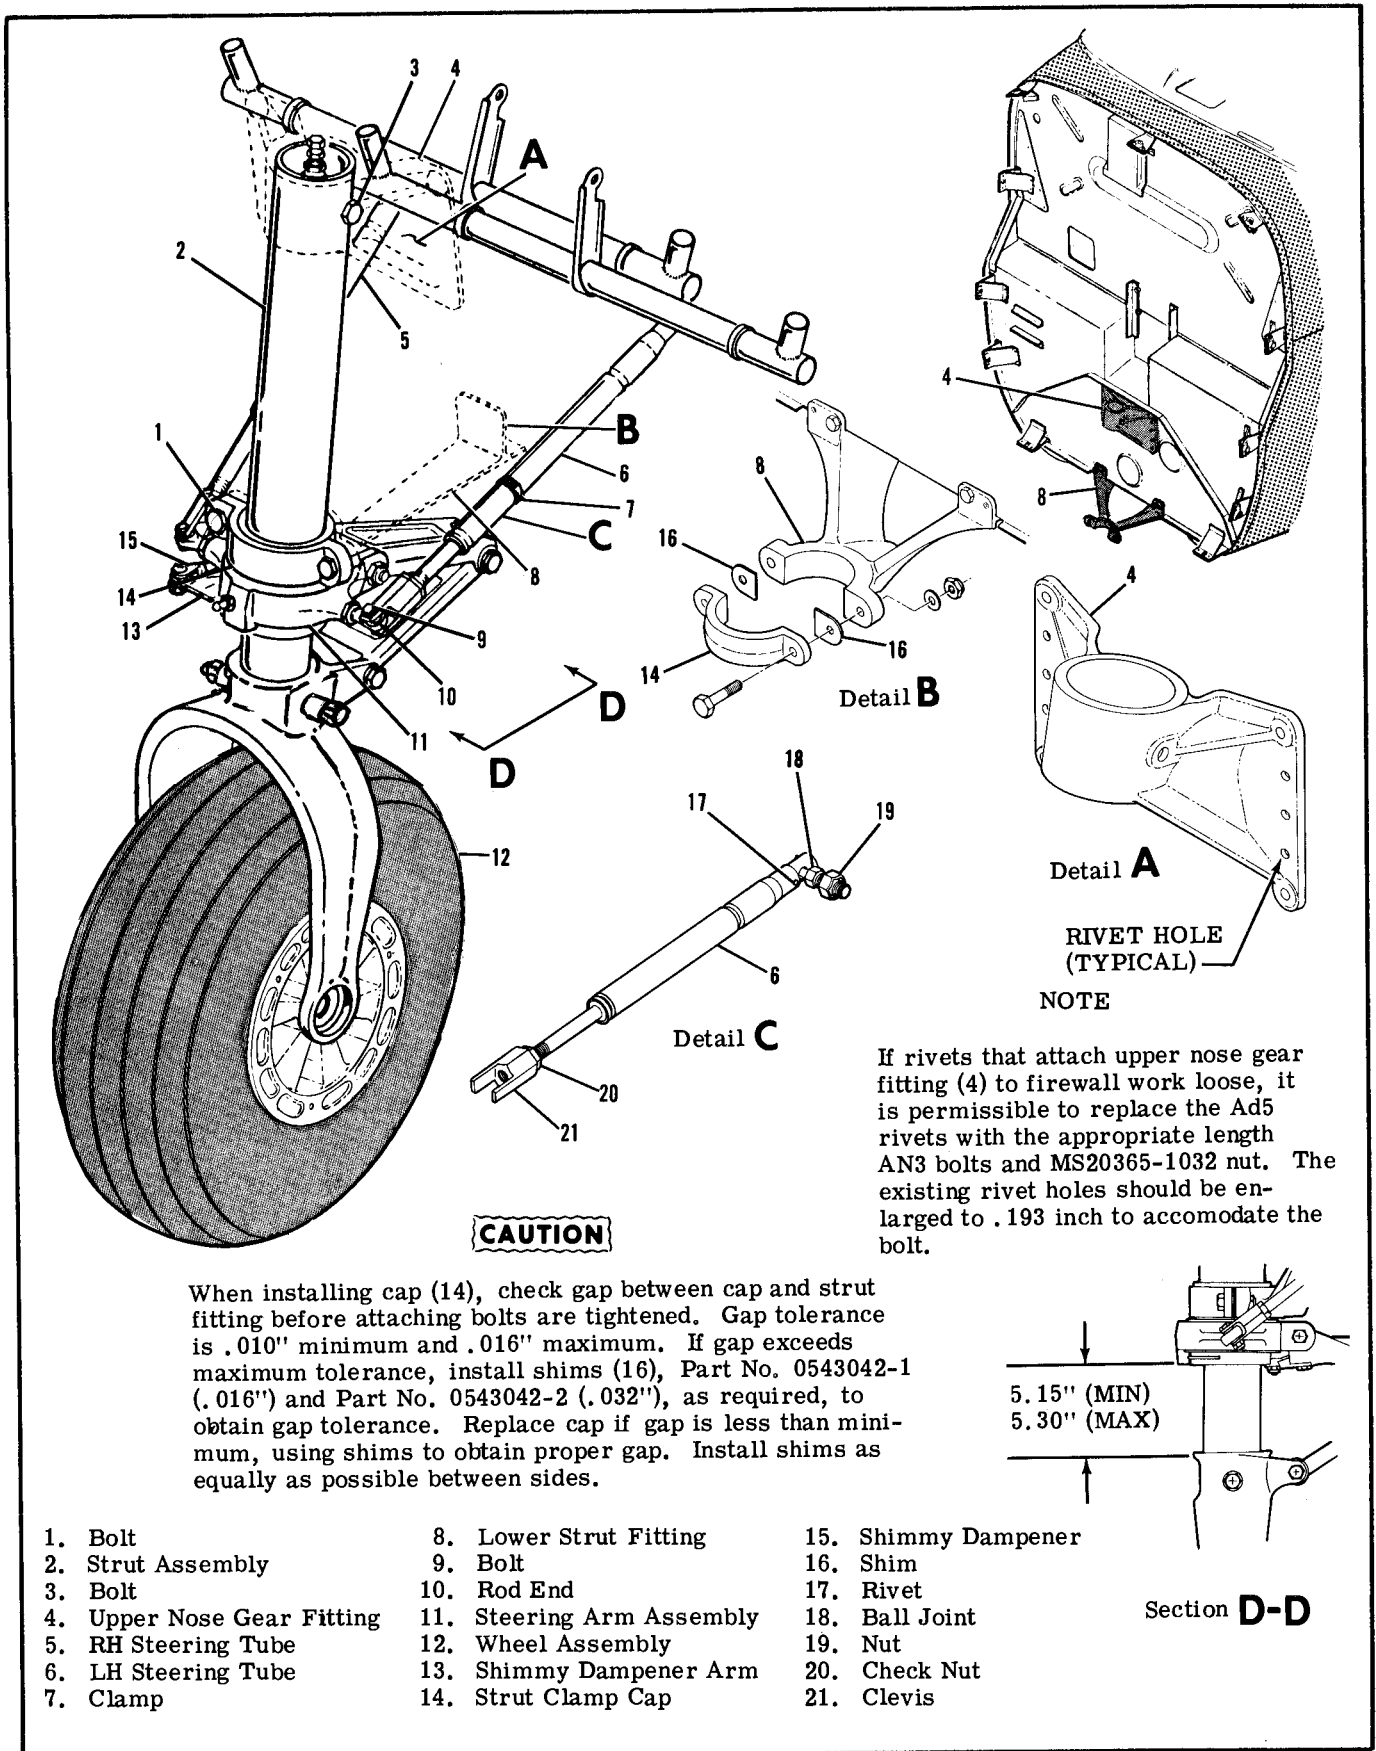

Figure 5-6. Nose Gear Installation
- 5-27. NOSE GEAR REMOVAL. (Refer to figure 5-6.)
- 5-28. NOSE GEAR INSTALLATION. (Refer to figure 5-6.)
- Install shims and strut clamp cap attaching strut to lower strut fitting, observing the CAUTION in figure 5-6.